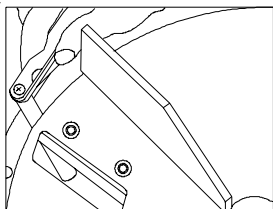
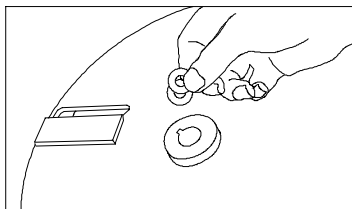

fig. 6
fig. 7
6. Retain shim washers used at end of crankshaft for use at impeller reinstallation (see fig. 7). However, your unit may or may not have required the use of shim washers.
15. Tighten impeller bolt. Torque impeller bolt to 50 Ft. Lbs. (68 N-m) (see item 51 on page 11).
17. If gap is less than 0.040"(0.51mm), add shim washer 890130 (0.060" {1.52mm} thick) and/or 890131 (0.020" {1.02mm} thick), whichever is required. If gap is more than 0.080"(2.03mm), remove one or more shim washers as needed to obtain correct gap (see fig. 6 & fig. 7). The chipper will function at up to a maximum of 0.125"(3.18mm) gap.